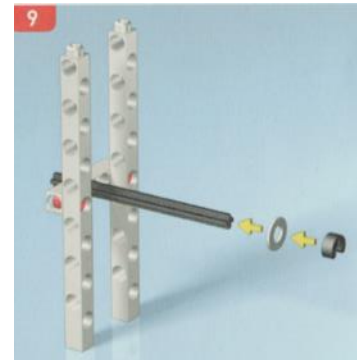

Figure 3: Axle Assembly
**Use Figure 3 for steps 9 and 10**